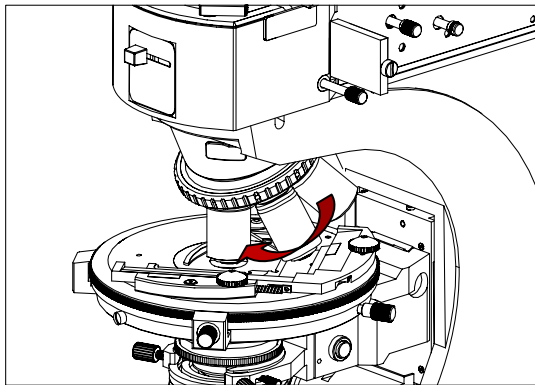

Fig.5
2. Insert the 10X objective into the primary hole (which without centering holes on its sides) on the nosepiece, then push the nosepiece clockwise and install other objectives by the sequence of low to high magnification (figure 5).